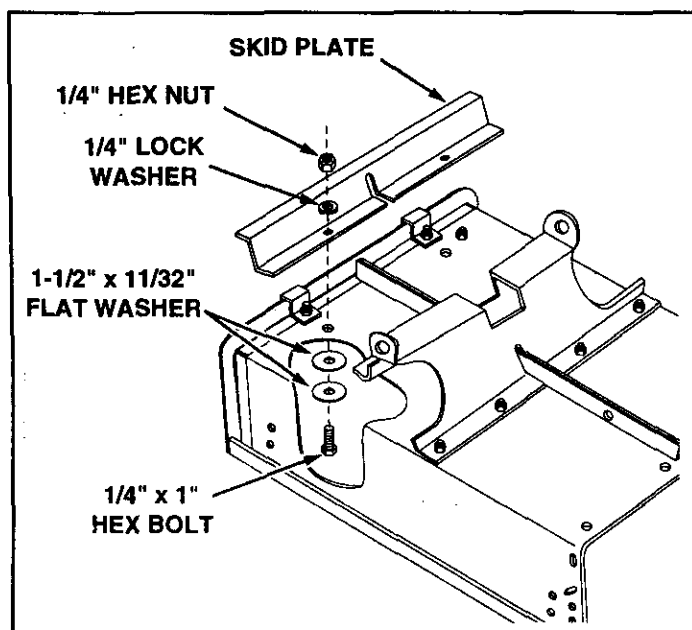

FIGURE 5
- Lower the cart to rest upside down, with the wheel support facing up, as shown in figure 5.
- Assemble the skid plate to the bottom of the cart using two 1/4" x 1" hex bolts, four 1-1/2" flat washers, two 1/4" lock washers and two 1/4" hex nuts. See figure 5.